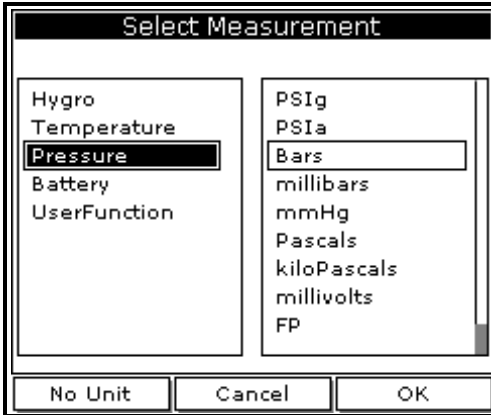

Figure 44: Select Measurement Window
1. Use the [▼] key to step to a box and press [ENTER]. A screen similar to Figure 44 appears.